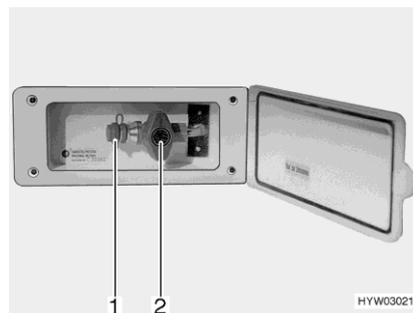

Fig. 111 External gas connection
- Connect the external gas device to the connection point (Fig. 111,1).
- Open the gas isolator tap (Fig. 111,2).